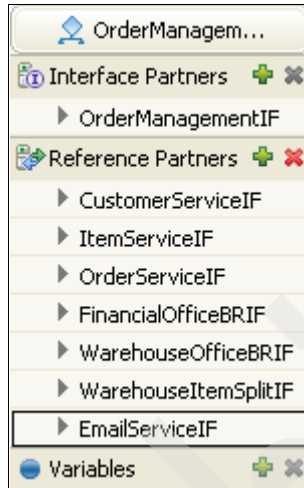

Figure 3-244 OrderManagementBP's reference partners
1. Add a reference partner to the OrderManagementBP by dragging EmailServiceIF in the OrderManagementLib to the list of reference partners as shown in Figure 3-244.